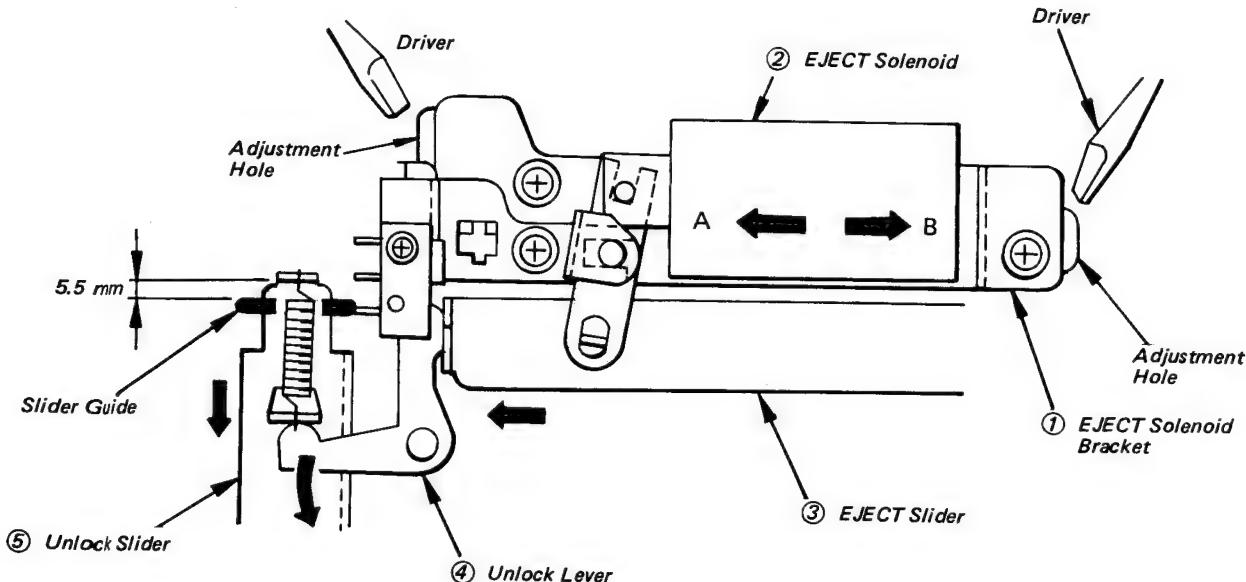

Fig. 5-74 Eject Solenoid Adjustment
#### 23-2. Adjusting (see Fig. 5-74, 5-75)
4. Loosen the screws holding eject solenoid bracket ①. (open the Video Board.)
5. Slide the eject solenoid bracket ① in the B direction ( $\rightarrow$ ).
6. Set the VTR in the eject mode of operation to energize the eject solenoid ② to extract the plunger core.
7. Insert a braded screwdriver into the reel drive chassis adjustment hole and move the eject solenoid bracket ① in the A direction ( $\leftarrow$ ). The eject slide ③, then, actuates the unlock lever ④ to move the unlock slider ⑤ downward ( $\downarrow$ ).
8. Tighten the two screws where the clearance between the spring suspending bent portion of the unlock slider ⑤ and the slide guide on the reel drive base is 5.5 mm.
9. After adjustment, make certain that when the eject solenoid ② is energized to attract the plunger core, the eject slide ③ is cleared around 1 mm off the unloading sublever ⑥ (see Fig. 5-74, 5-75).